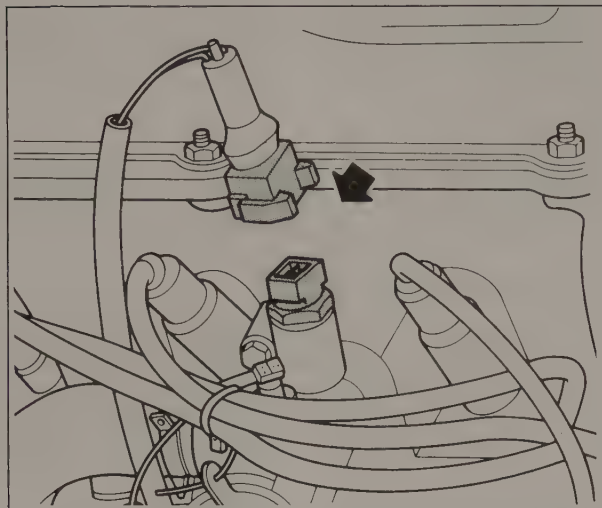
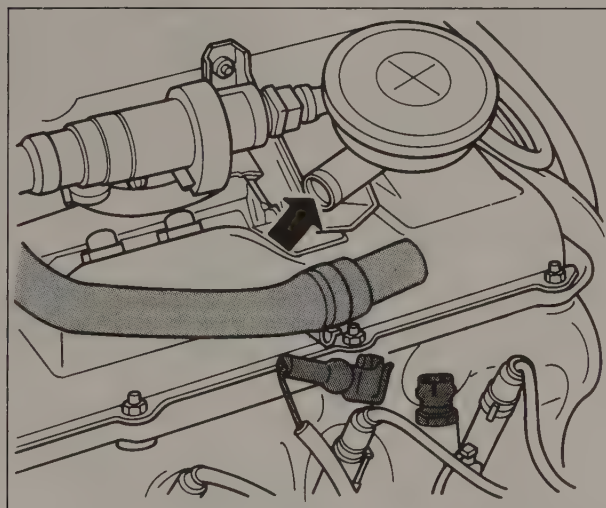

Fig. 4-3. Coolant temperature sensor connector (arrow) on Digifant II system (engine codes RV and PF) disconnected for test.
Fig. 4-4. Crankcase emission valve hose (arrow) on Digifant II system (engine codes RV and PF) disconnected and plugged for ignition timing check.
- On cars with the Digifant II system, disconnect the harness connector to the coolant temperature sensor as shown in Fig. 4-3 and, disconnect and plug the hose from the crankcase emission valve, as shown in Fig. 4-4.
On RV and PF engines, disconnect the harness connectors from the Digifant control unit and the coolant temperature sensor. The Digifant control unit is located in the cowl above and behind the firewall on the driver's side. The coolant temperature sensor is shown earlier in Fig. 4-3.